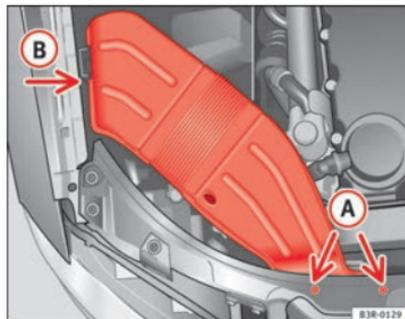

Fig. 191 Air duct on right side of vehicle
- Unscrew bolts **A** ⇒ Fig. 191.